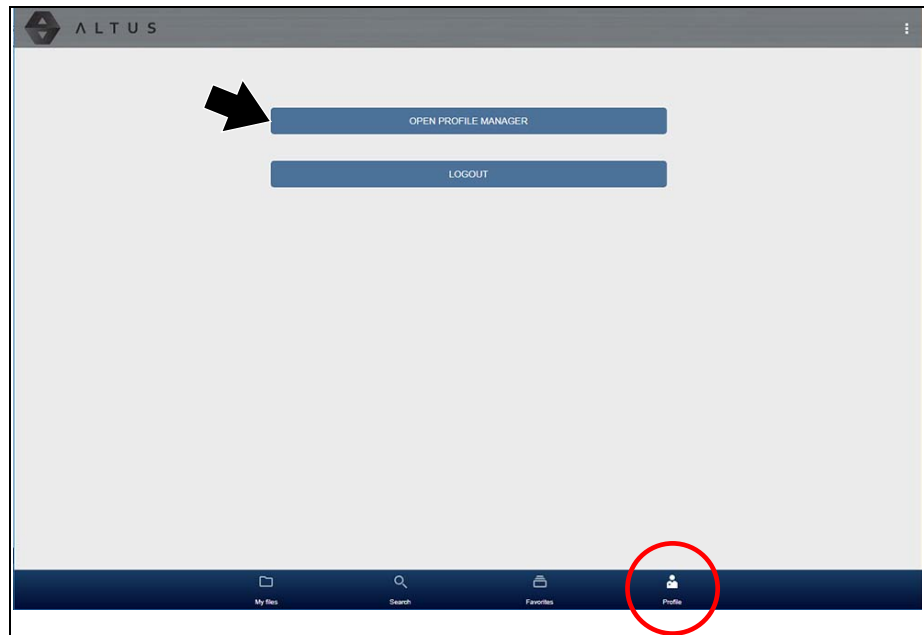

Figure 13-17
- Open Profile Manager (Figure 13-17), see Using Profile Manager, on page 176,
1. To open the Profile Manager screen, select **Profile** from lower toolbar, then select **Open Profile Manager** (Figure 13-17).